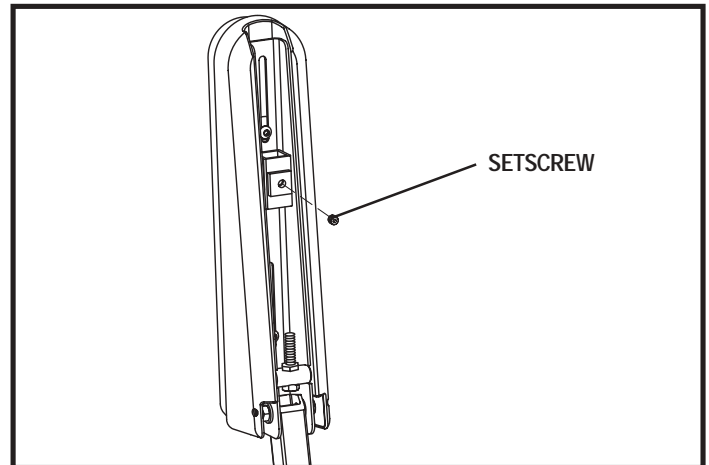

Figure 19. Underside of Armrest
2. Loosen the setscrew on the controller bracket. See figure 19.
4. Flip up the armrest and loosen the setscrew. See figure 19.